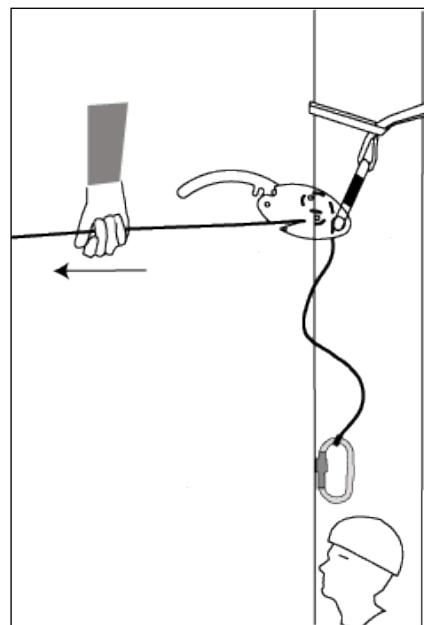

Figure 5 Tighten the rope between the Smartline descender device and the injured person.
- 3) Place the anchor sling around a structure and into the green karabiner which is attached to the descender device. The Smartline hangs upside down as shown in fig 5.
- 5) Take out any slack in the line by pulling the free end of the line as shown in figure 5. It is important that dynamic loads are avoided.
After the line between the anchor and the person to be evacuated is tightened as much as possible (figure 5), adjust the loaded fall protection equipment so that the person is lowered until his weight is fully onto the Smartline. Then the other fall protection equipment can be removed and the descent started.